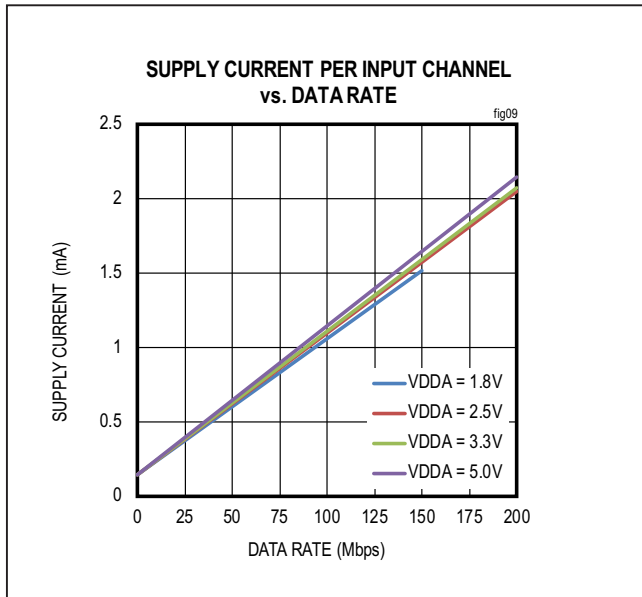
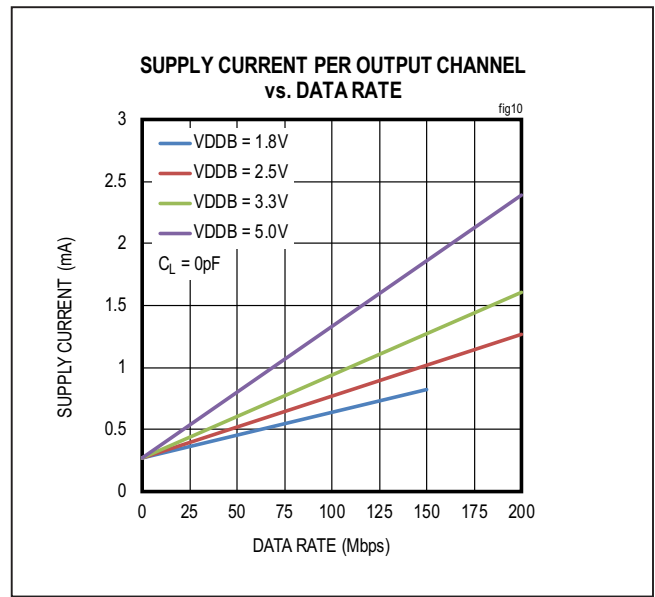

Figure 9. Supply Current Per Input Channel (Estimated)
Figure 10. Supply Current Per Output Channel (Estimated)
The required current for a given supply (V_{DDA} or V_{DDB}) can be estimated by summing the current required for each channel. The supply current for a channel depends on whether the channel is an input or an output, the channel’s data rate, and the capacitive or resistive load if it is an output. The typical current for an input or output at any data rate can be estimated from the graphs in Figure 9 and Figure 10. Please note the data in Figure 9 and Figure 10 are extrapolated from the supply current measurements in a typical operating condition.
The total current for a single channel is the sum of the “no load” current (shown in Figure 9 and Figure 10) which is a function of Voltage and Data Rate, and the “load current,” which depends on the type of load. Current into a capacitive load is a function of the load capacitance, the switching frequency, and the supply voltage.
- Channel 1 is an input channel operating at 2.5V and 20Mbps, consuming 0.33mA, estimated from Figure 9.
- Channel 2 and 3 are input channels operating at 2.5V with DC signal, consuming 0.14mA, estimated from Figure 9.
- Channel 4 is an output channel operating at 2.5V and 100Mbps, consuming 0.77mA, estimated from Figure 10.
- Channel 1 is an output channel operating at 3.3V and 20Mbps, consuming 0.40mA, estimated from Figure 10.
- Channel 2 and 3 are output channels operating at 3.3V with DC signal, consuming 0.27mA, estimated from Figure 10.
- Channel 4 is an input channel operating at 3.3V and 100Mbps, consuming 1.11mA, estimated from Figure 9.